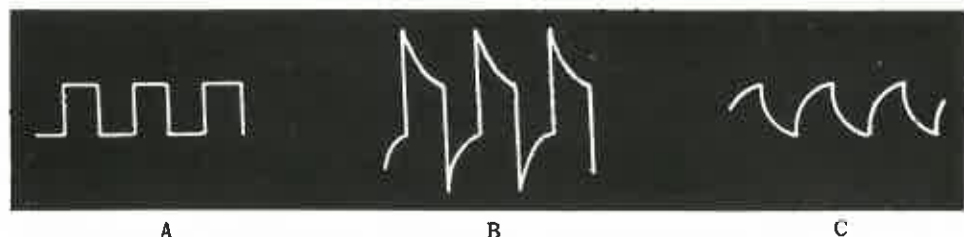

FIGURE 4-4 - WAVEFORMS ENCOUNTERED IN ADJUSTING THE Y ATTENUATOR
(6) Input Attenuator Compensation Capacitors - The trimmer capacitors C102, C104 and C106 are used for compensating the input attenuator (VOLTS FULL SCALE) in the 1V, 10V, and 100V positions respectively. Compensation should be adjusted by applying a 10-kc square wave to the Y INPUT terminals and adjusting the appropriate trimmer to pass the square wave with minimum of distortion. In Figure 4-4 "A" represents proper adjustments, while "B" and "C" represent conditions of over-compensation and undercompensation, respectively.